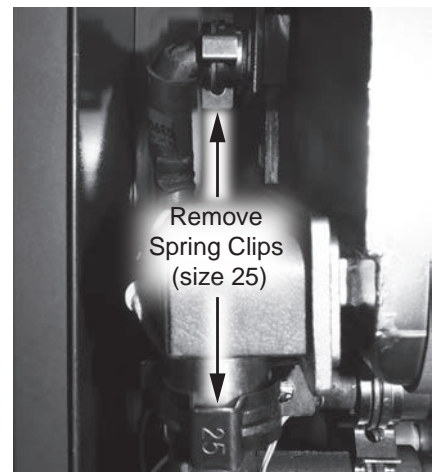

Figure 146 - Disconnecting secondary HEX water piping
- 37 Locate the inlet and outlet water connections on the secondary HEX. Remove the two spring clips (size 25) securing the water connections and place them aside in a safe place for reinstallation. Disconnect piping. See Figure 146.